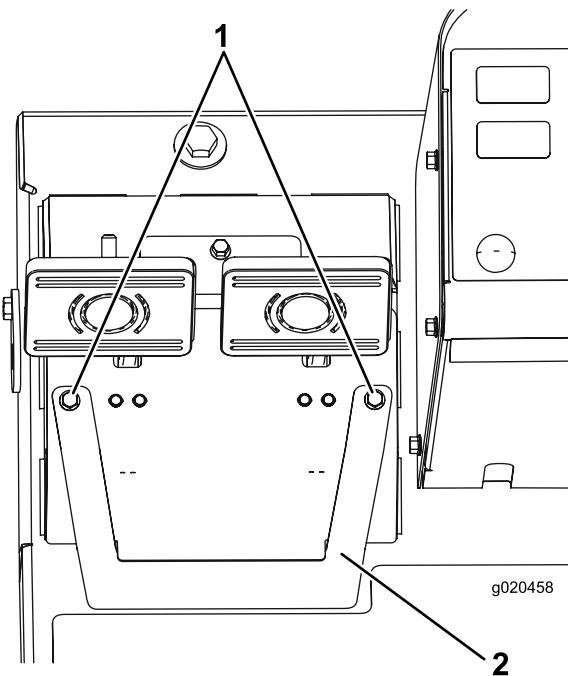

Figure 66
- Loosen the 2 mounting screws and remove the brake-adjustment cover (Figure 66).